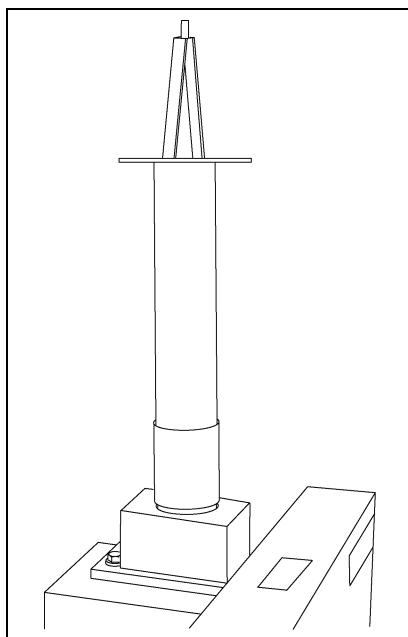
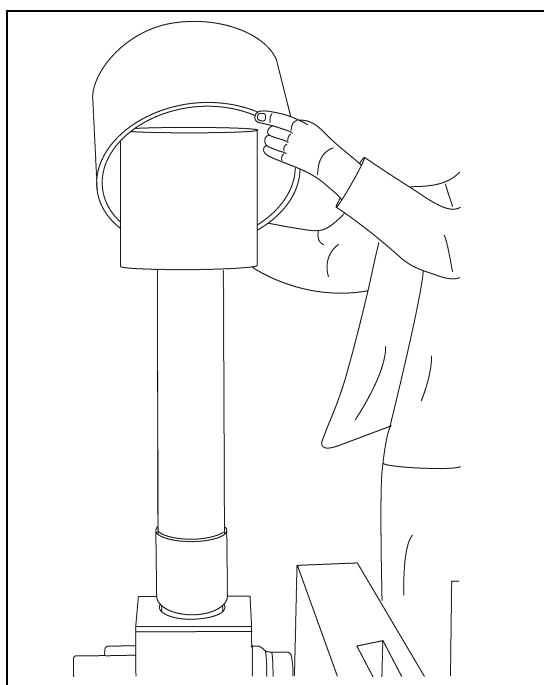
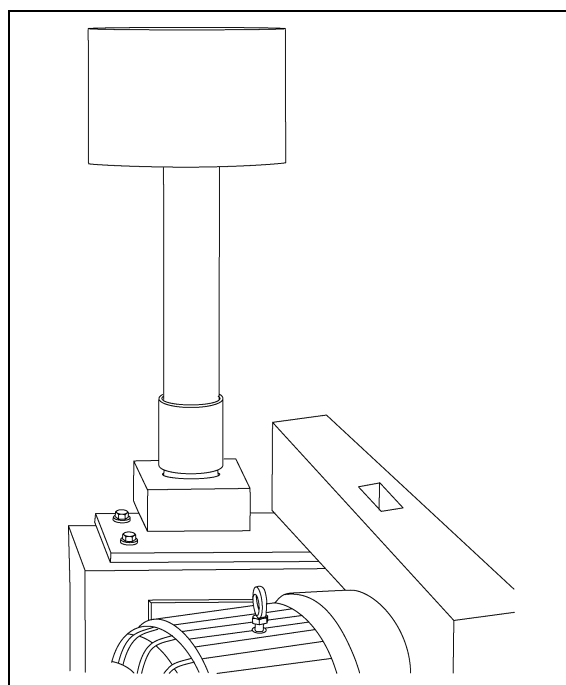

Figure 7A
Figure 7B
Figure 7C
2. Place the air filter element with pre-filter on the base and cover with the filter canister using the 3/8" wing nut and washer. The wing nut does not need to be more than finger tight. *(See Figure 7A, Figure 7B and Figure 7C.)*